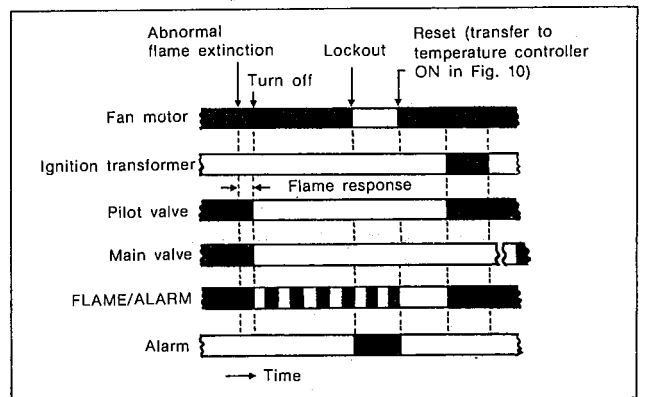

Fig. 12
3. Abnormal Flame Failure during Combustion (See Fig. 12)